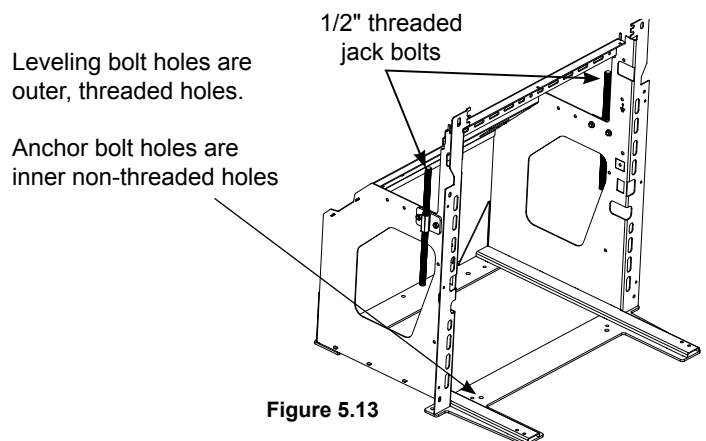

Figure 5.13
With the surround attached and the power cord installed, install the mounting frame into the opening. Install the (4) 5/16"- 18 leveling bolts into the threaded holes in the bottom pan of the mounting frame and adjust these bolts to insure the frame is level. **NOTE:** Use of all 4 leveling bolts may not be necessary. See Figure 5.13. Tighten the 1/2" jack bolts against the lintel.